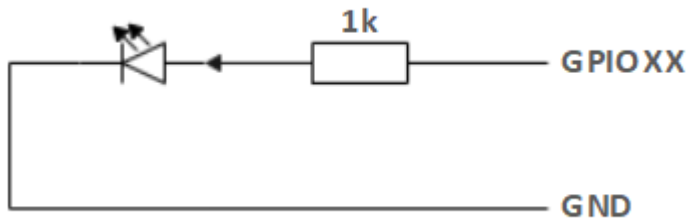

Figure 2.1.5.2-9
5. If a GPIO is set to output mode, it outputs a high-level signal, and the circuit connection is shown in Figure 2.1.5.2-9, and the LED light will light up.